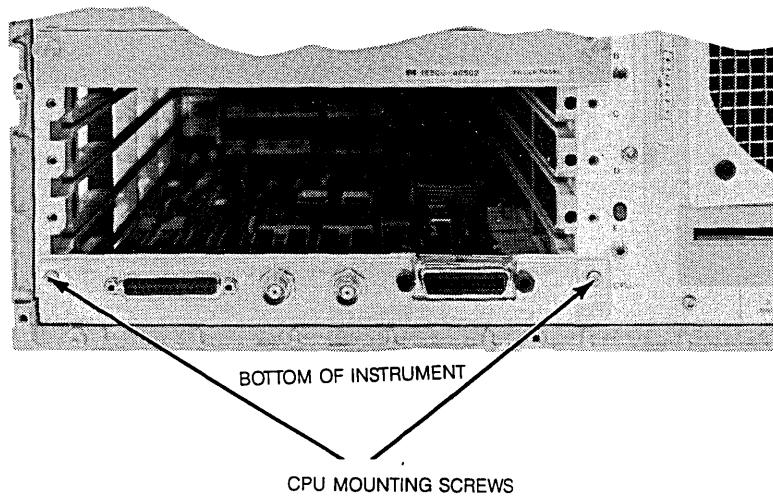

Figure 6-37. Microprocessor Board Removal
- e. Disconnect fan power cable and front panel cable from mother board. Refer to figure 6-37.